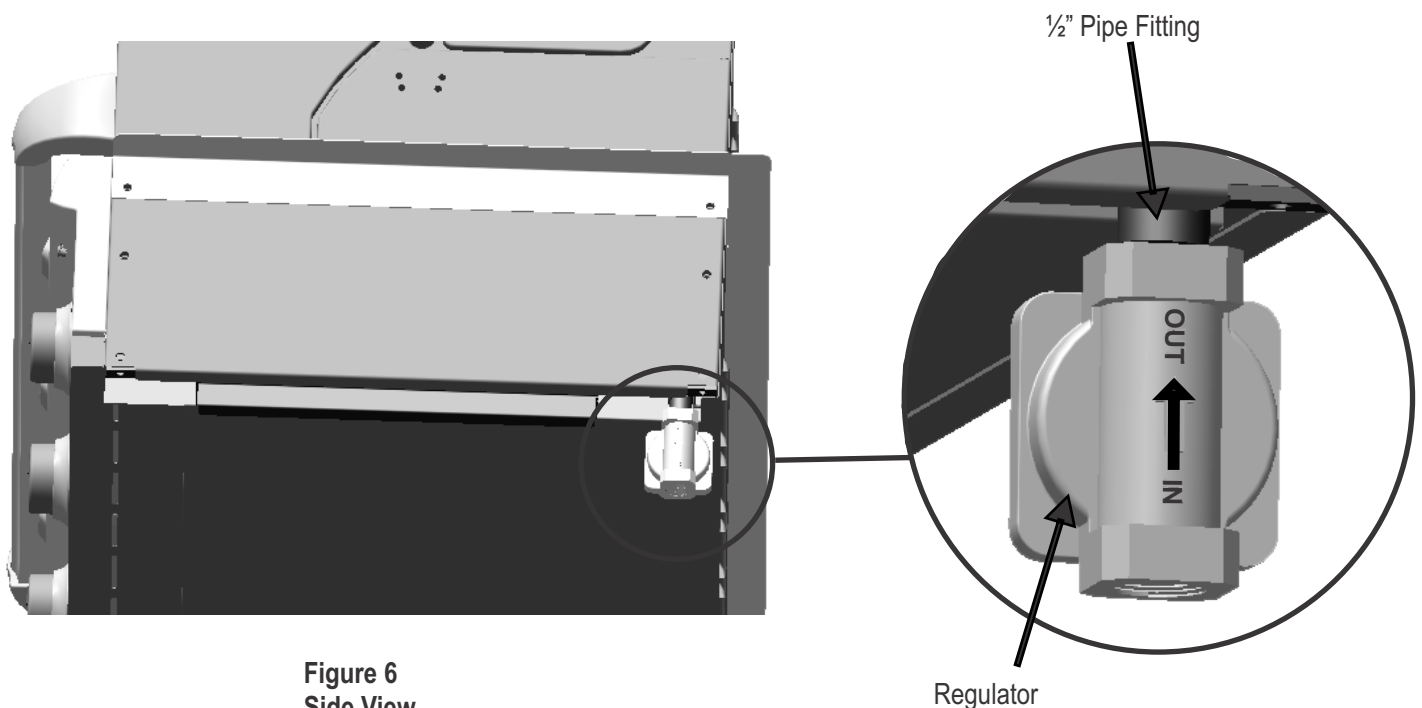

Figure 6
4. Connect the natural gas appliance regulator (provided) to the ½" pipe fitting connection taking care to connect the outlet side of the regulator to the pipe fitting connection (see Figure 6 ). The inlet and outlet sides of the regulator are noted by markings on the rear of the regulator body.